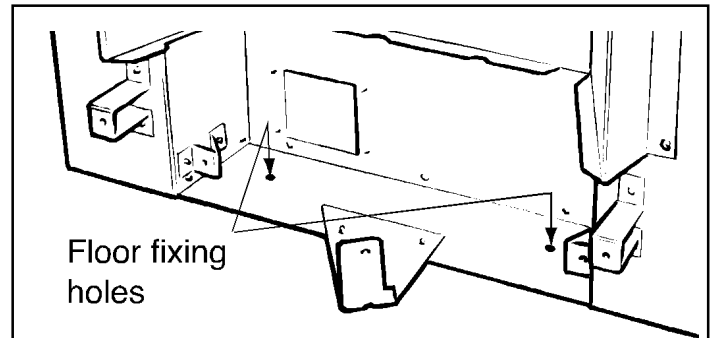

Figure 21 Floor fixings
9. Drill a hole into the fireplace floor through each of the two holes in the base of the convection box using a no.12 masonry drill. See figure 21.